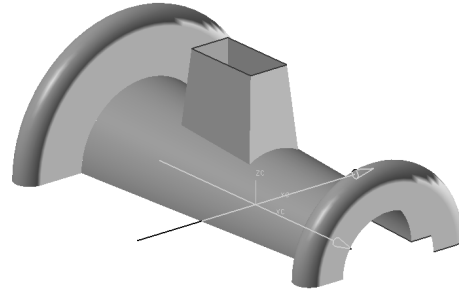

Figure 11-76 The resulting extruded surface
3. Extrude the sketch through a distance of 50 in the downward direction and the draft angle of -5. The resulting extruded surface model is shown in Figure 11-76.